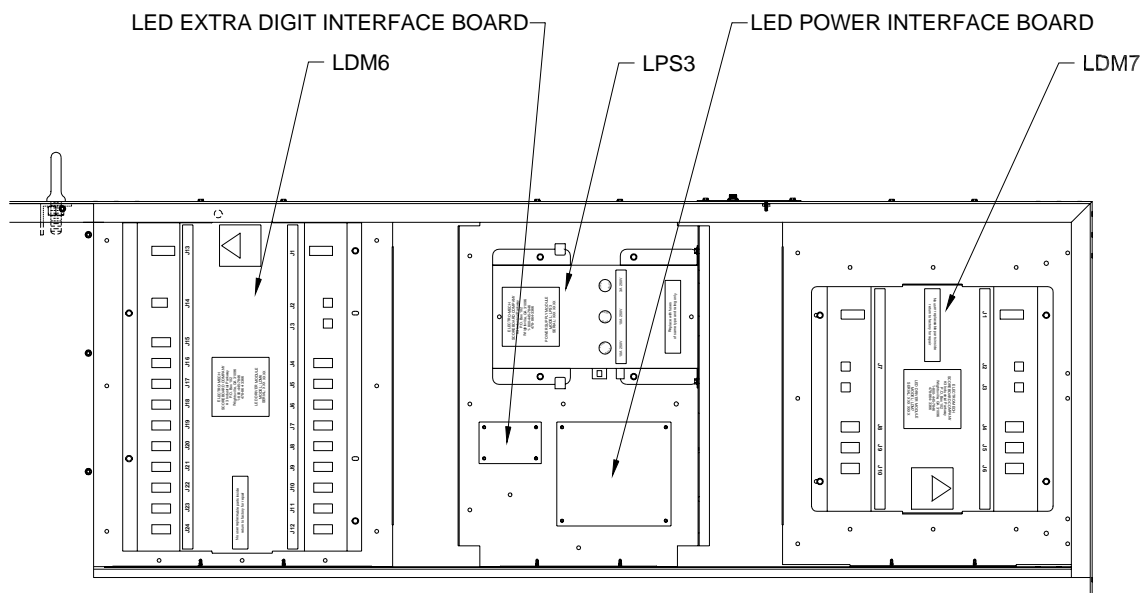

Figure 15 HOME Stat Panel Section Electronics
4. Remove the sheet metal screws that hold the panel on the scoreboard. Figure 15 shows the components behind the panel.